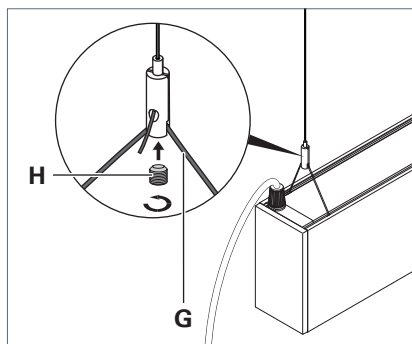

Fig. 16: Fastening the luminaire to the wire rope holder.
- Insert the wire rope **G** of the luminaire into the wire rope holder, see Fig. 16.